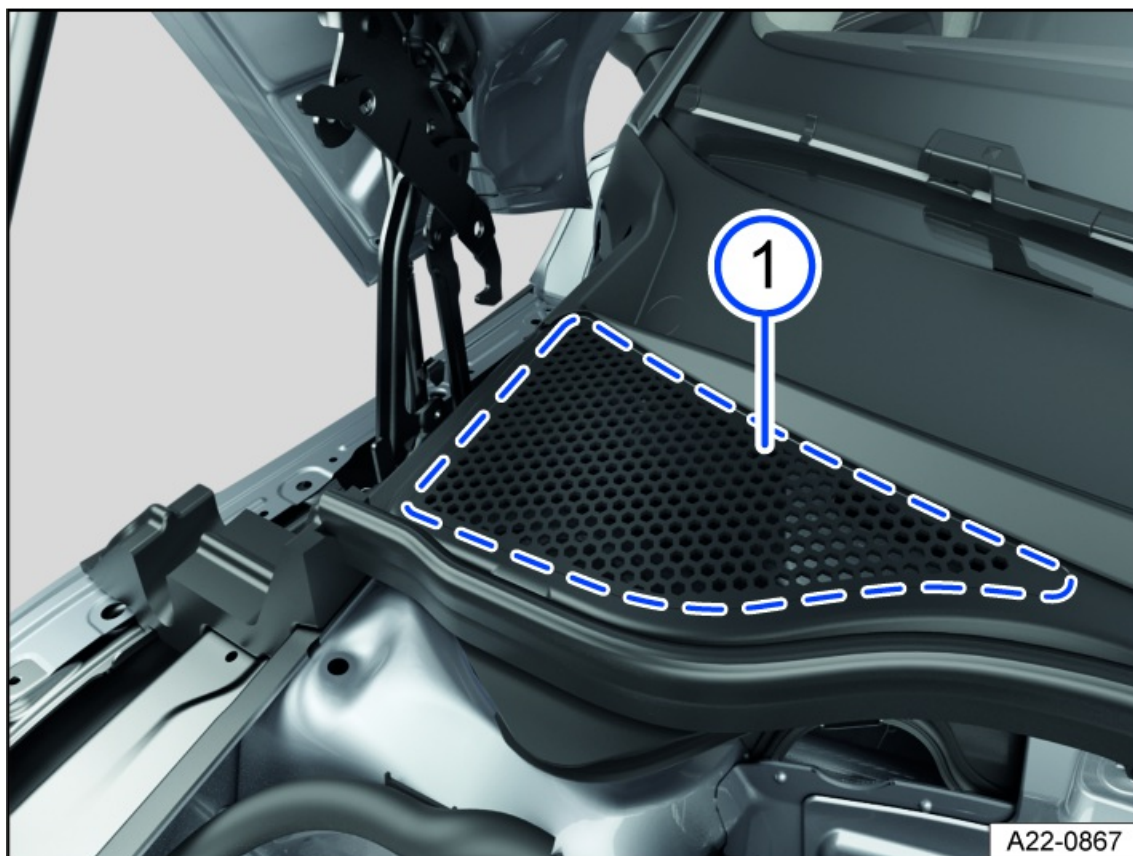

Fig. 232 Between the engine compartment and windshield: plenum chamber (general example).
- Have the area under the perforated cover regularly cleaned by an authorized Volkswagen dealer or authorized Volkswagen Service Facility qualified in this respect fig. 232. Volkswagen recommends contacting an authorized Volkswagen dealer or authorized Volkswagen Service Facility.
- Remove leaves or other loose objects with a vacuum or by hand fig. 232.